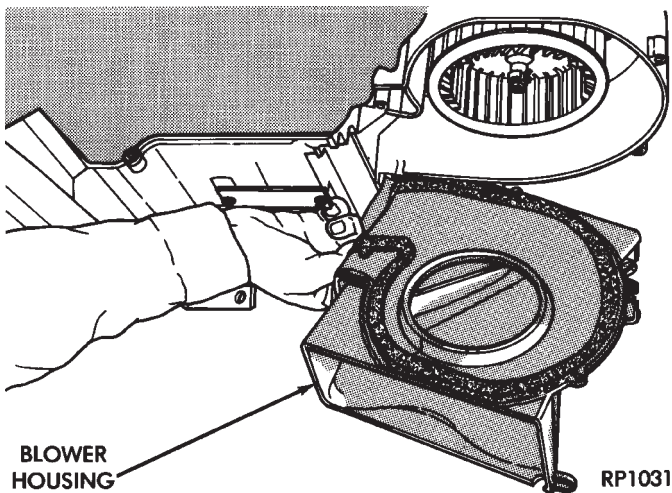

Fig. 3 Blower Housing—Typical
- (1) Disconnect the negative battery cable.
- (2) Remove the glove box. Refer to Group 8E, Instrument Panel.
- (3) On vehicles equipped with A/C, disconnect the two vacuum lines from the recirculating air door actuator. Disconnect blower lead wire connector.
- (4) Remove two screws at the top of the blower housing, securing it to the unit cover.
- (5) Remove five screws from around the blower housing and separate the blower housing from the unit (Fig. 3).